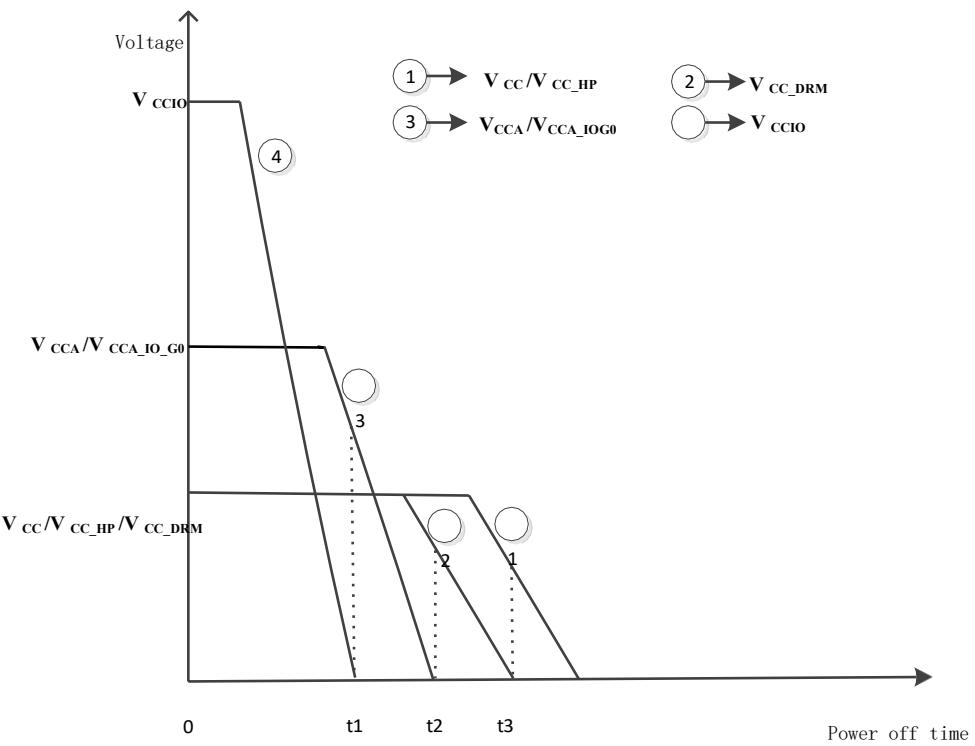

Figure 3-2 Power-off timing diagram
- (4) The recommended power-off sequence is shown in Figure 3-2. According to the power-off sequence